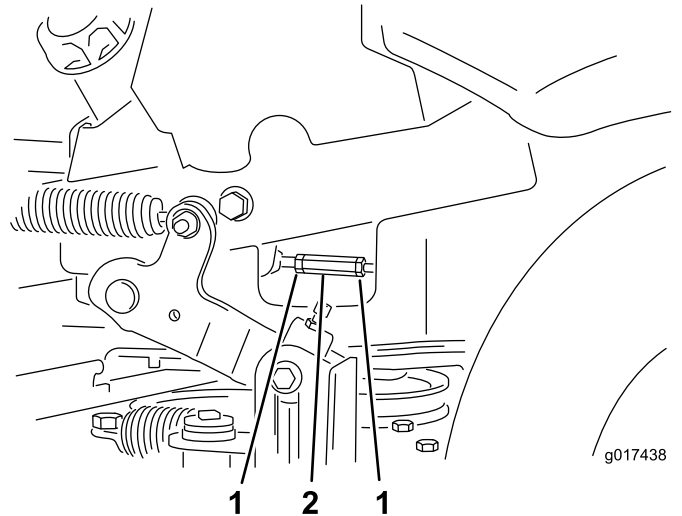

Figure 65
14. Adjust the pump-control rods by loosening the 2 jam nuts and rotating the adjustment nut in the appropriate direction until the wheels slightly creep in reverse (Figure 65).
16. Tighten the 2 jam nuts against the adjustment nut (Figure 65).